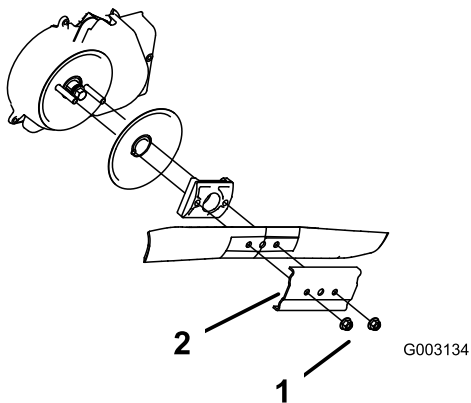

Figure 38
3. Remove the 2 blade nuts and the stiffener (Figure 38).
4. Remove the blade (Figure 38).
5. Install the new blade (Figure 38).